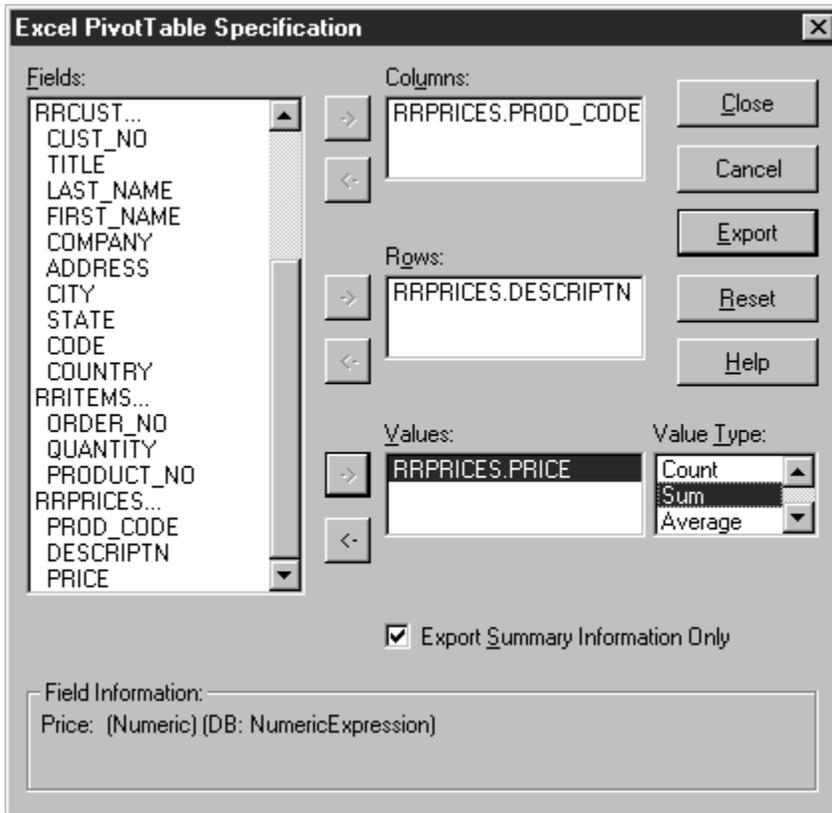

Figure 17.4 Excel PivotTable Specification Dialog
1. On the Export dialog box, highlight “Excel PivotTable” in the list box and select Edit. The Excel PivotTable Specification dialog shown in Figure 17.4 displays.
2. On the Excel PivotTable Specification dialog (see Figure 17.4), all fields from the report’s composite record structure are shown in the Fields list box. In the Fields list box, highlight the field that you want to supply values for the Column labels (in this case, the DATE field) and click the right arrow button next to the Columns box.